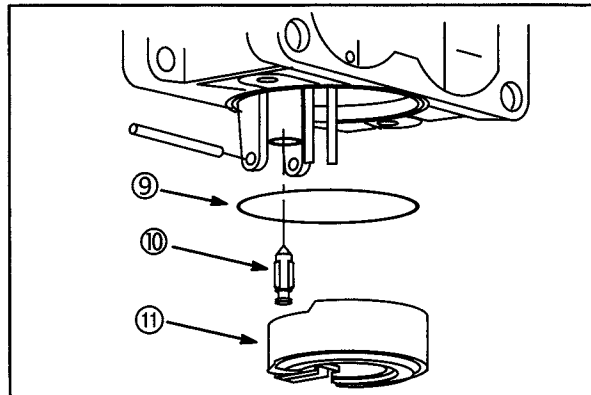

Fig. 128
7. Assemble inlet needle (10) to float (11) and install float, **Fig. 128**.